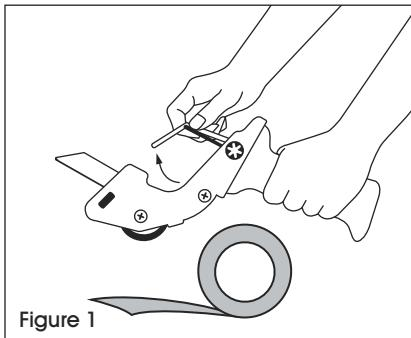

Figure 1
1. Place dispenser on flat surface. Unroll 5-6 inches of tape (sticky side down). Pull tape bar up. (See Figure 1)